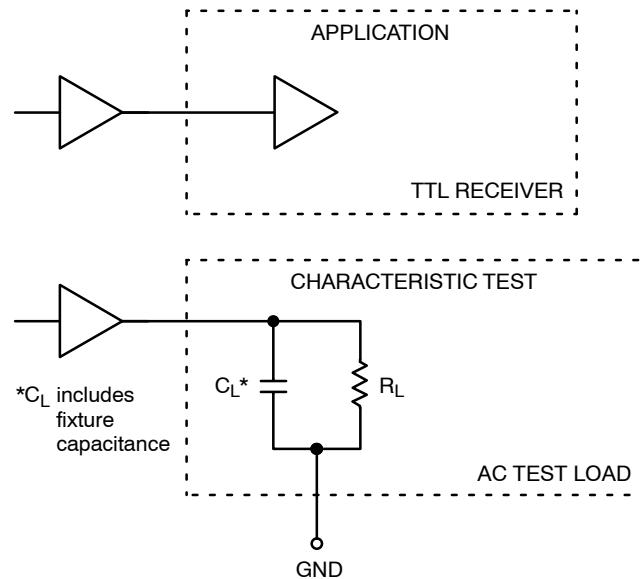

Figure 3. TTL Output Loading Used For Device Evaluation
- Measured with a 750 mV 50% duty-cycle clock source. $R_L = 500$ Ω to GND and $C_L = 20$ pF to GND. Refer to Figure 3.